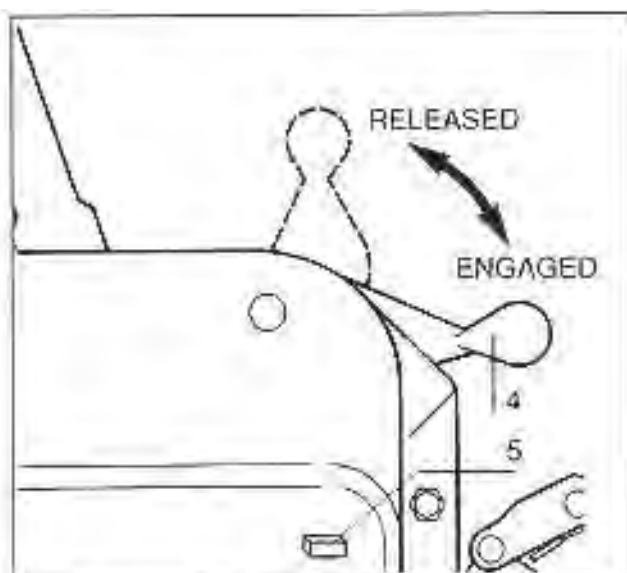

Fig. 7 - TU-8 and TU-16. Rope release lever
There are two positions for the rope release lever (See Fig. 7, 8 and 9): released or engaged.
4.1. TU-8 or TU-16 (Fig.7)